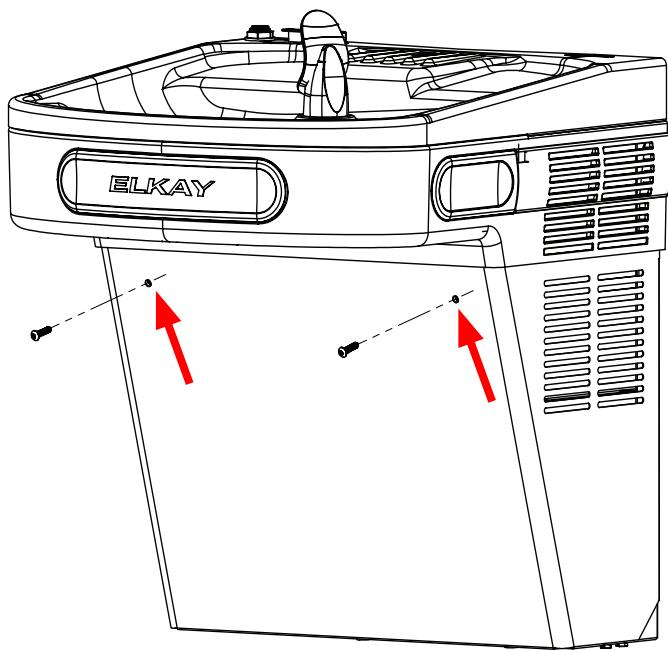

Fig. 7
1) Remove lower cover on refrigerated unit by removing (2) screws (see Fig 7, Pg. 6) and rotating the front panel down, refer Fig B(i) to B(iv), Pg. 3 for wrapper removing instructions.